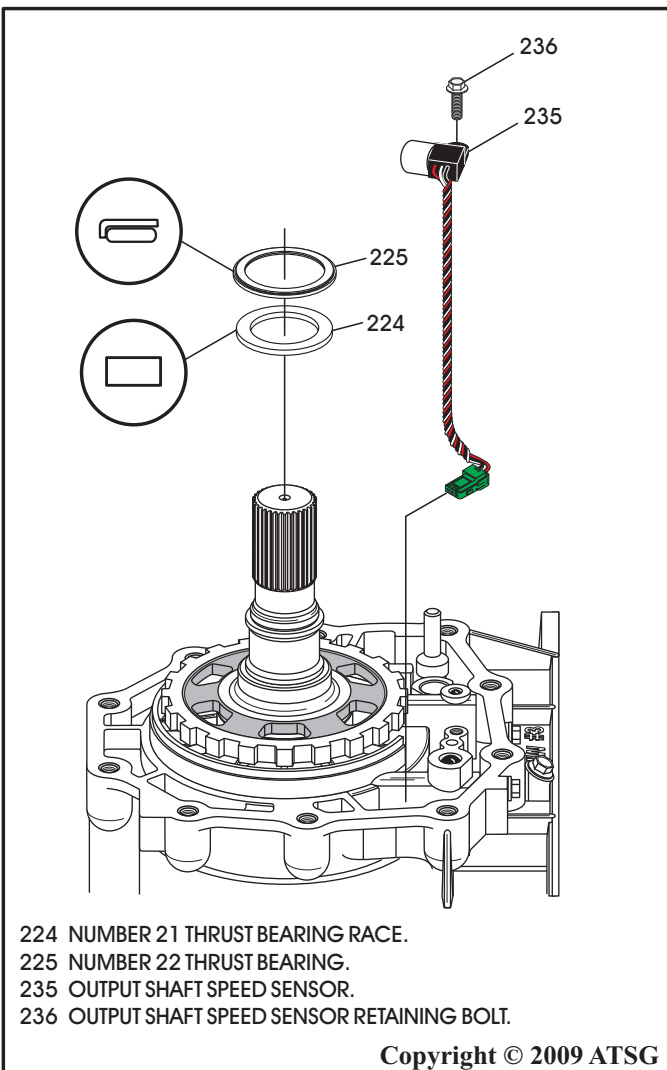

Figure 211
43. Install the number 21 thrust bearing race, as shown in Figure 211.
44. Install the output/revolution speed sensor, as shown in Figure 211.